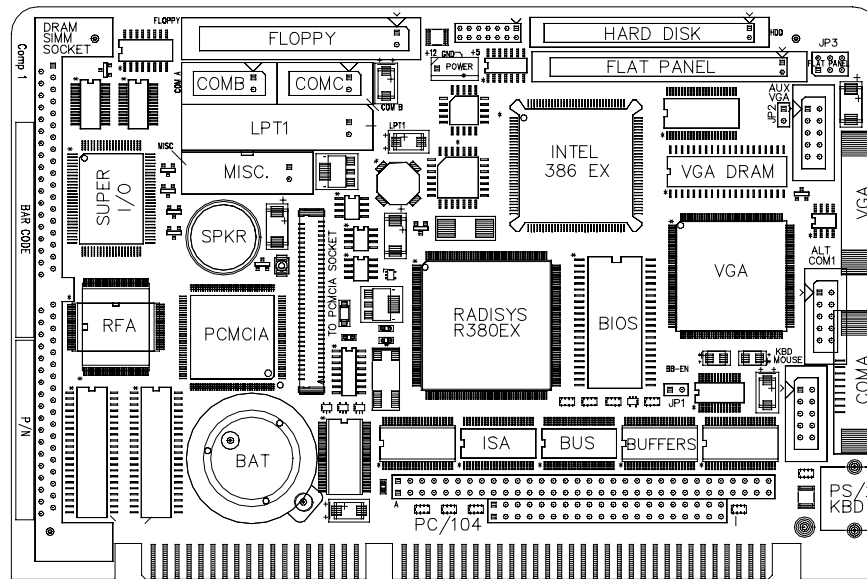

Figure 2-2. EPC-30 Layout.
You can power the EPC-30 using the 4-pin connector found on any standard PC/AT compatible +5 VDC/+12 VDC power supply such as that normally used with a PC's 3.5" floppy disk drive. The EPC-30 requires +5 VDC power to operate and +12 VDC power to erase or program most flash devices. Note: +12V is also supplied to the PCMCIA connector S1. Figure 2-2 shows the location of the power connector on the board.
1. Inspect the board, noting the location of the connectors, jumpers, and major components. Refer to Figure 2-2.